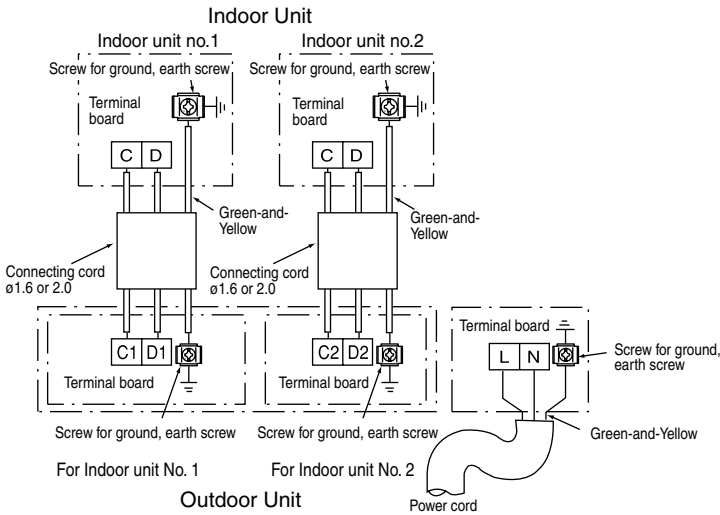

Fig. 1
- Connecting cord should be connected according to Fig.1, that the Indoor unit No. agree with terminal board No. of Outdoor unit.